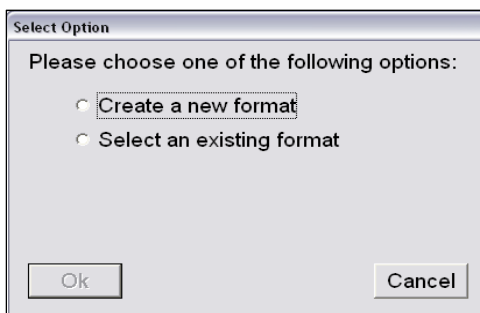

Figure 7: Select one of the above options
3. Select either “Create a new format” or “Select an existing format” and click “Ok” (Figure 7). Choose “Create a new format” when performing Multiple Sector Verification for the first time as no default templates exist.